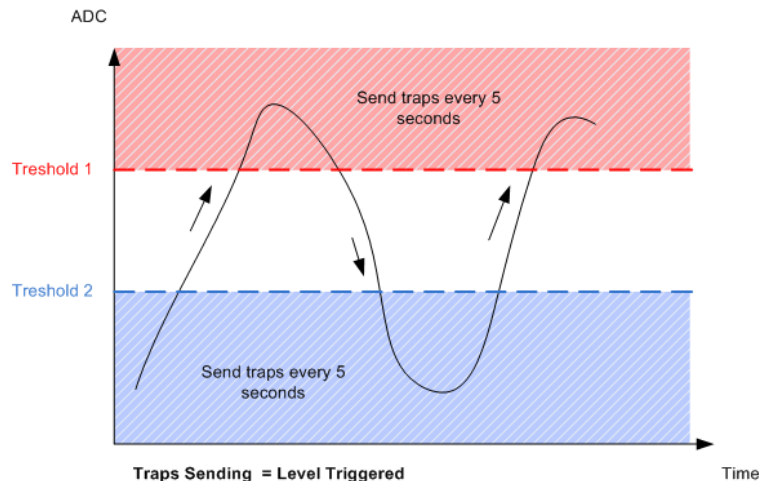

Figure 40. Sending tarps with Traps Sending = "Level Triggered"
- If **Traps Sending** parameter from web page "**SNMP Traps Settings**" is set to "**Level Triggered**" and if the Analog Input measured value is less or equal than **Low Threshold** or greater or equal than **High Threshold** traps will be sent every 5 seconds (Fig. 40);